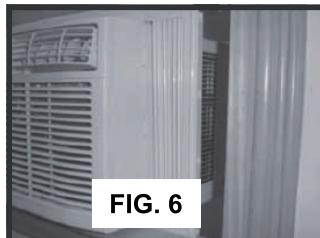
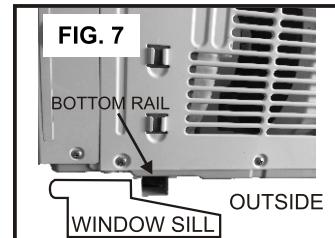

FIG. 6
FIG. 7
1. Place the air conditioner on the sill with the bottom mounting rail against its back edge. Center the air conditioner and close the window securely behind the top mounting rail. The air conditioner should be slightly tilted to the outside area. Use a level; about a 1/3 bubble will be the correct case slant to the outside. (See FIG. 6 & FIG. 7) (**It is suggested to keep a downward angle to let accumulated rain water drain out from the back side of the unit bottom.**)